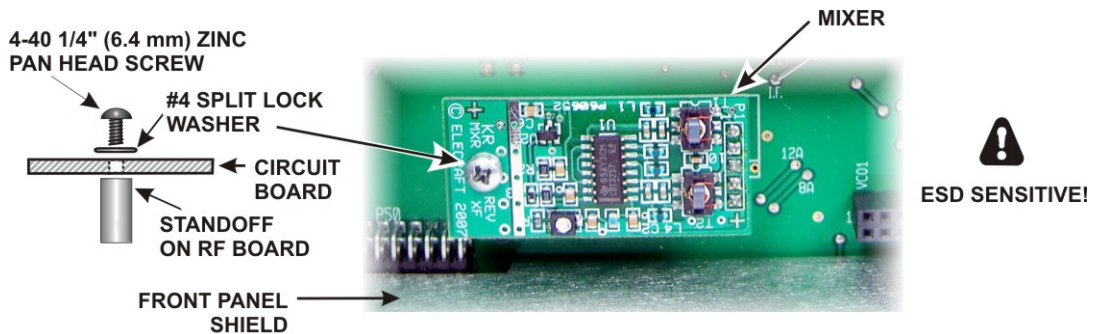

Figure 14. Installing Mixer Board.
□ Mount the K3 mixer board on the RF board as shown in Figure 14. The mixer plugs into Z1 on the RF board.